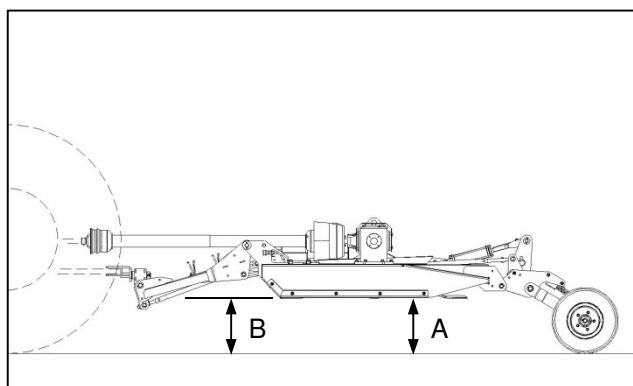

Fig. 9
- ✔ Adjust the left and right side tie-rods in equal increments until the implement is level with the ground (Fig. 9-A/B).
- ✔ Verstel die linker- en regterspoorstange geleidelik ewe veel totdat die implement waterpas is met die grond (Fig. 9-A/B).